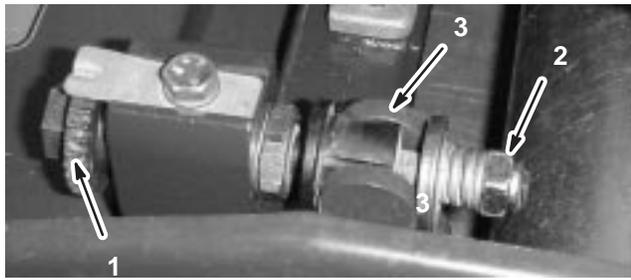

Figure 48
1. Turn bedbar adjuster screw, counterclockwise, to back bedknife away from reel (Fig. 48).
- Back out the spring tension nut, until the washer is no longer tensioned against the bedbar (Fig. 48).